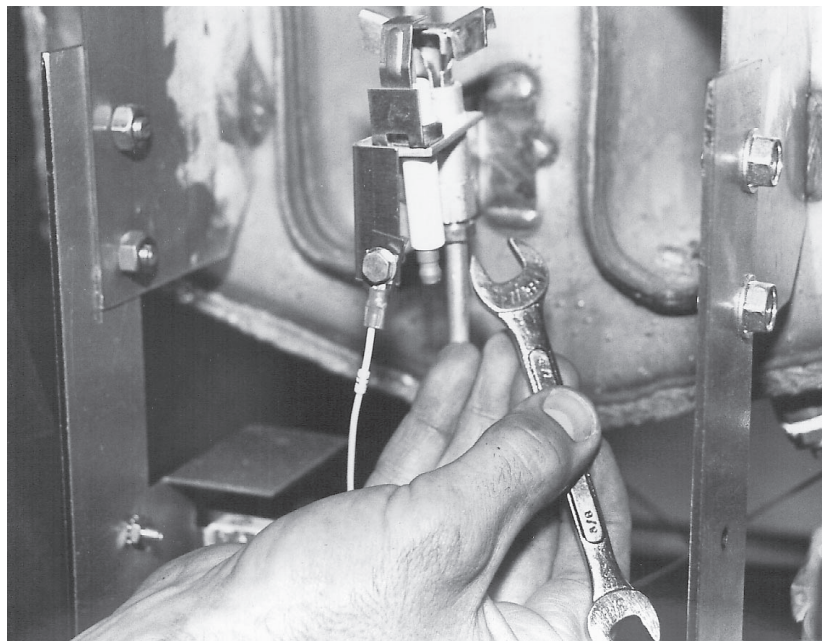

Fig. 38
3. With a $\frac{7}{16}$ " wrench, loosen the pilot tube holding nut. (Fig. 38)